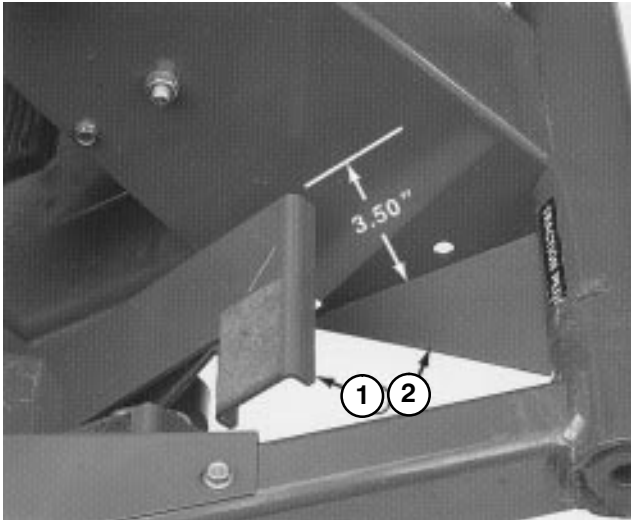
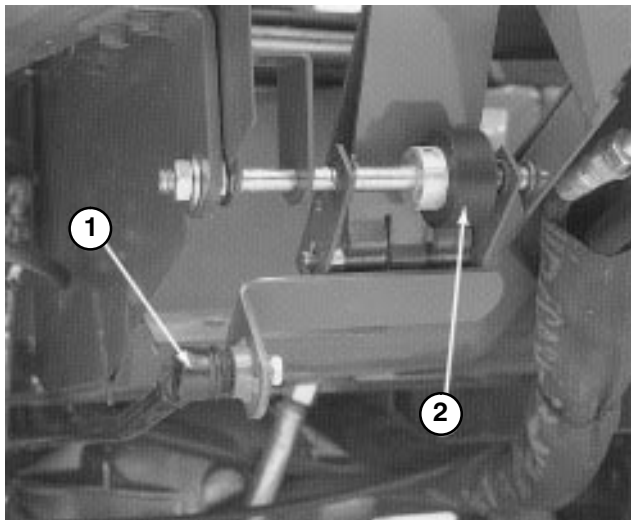

Figure 55
Figure 56
2. Press down on front of traction pedal and check travel. There should be approximately 3.50" clearance between end of pedal and floor plate when pedal in fully depressed (Fig. 55). Adjust pump control rod (Fig. 56) to attain dimension.
1. Loosen two nuts securing traction pedal shaft on right side of pedal (Fig. 56).